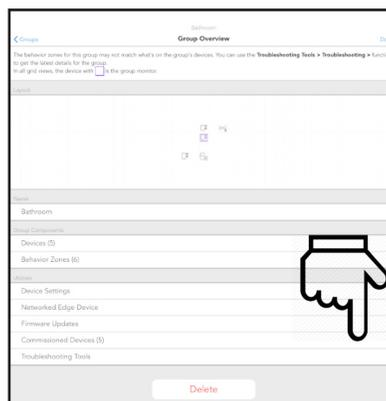

Figure 61: Group Overview
2. Click on the **Commissioned Devices** link (Figure 61). The commissioned devices screen will load.